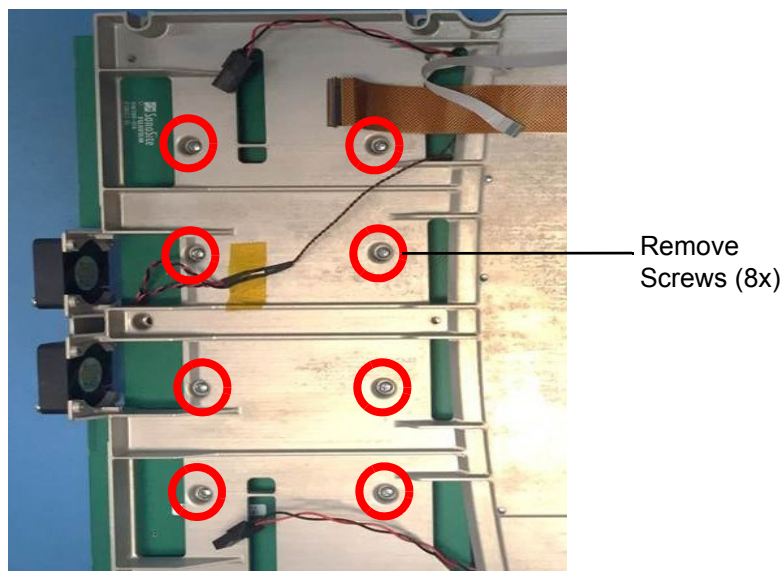

Figure 6.12 DTC Nest Frame removal
- 1 Orient Mid-Frame Assembly per Figure 6.12 and remove eight screws securing the nest frame assemblies
- 2 Install DTC onto Main PCBA as shown in Figure 6.12.
- 5 Turn Mid-Frame Assembly over and orient per Figure 6.12.
- 7 Install four screws as shown in Figure 6.12 and torque to 5.5 in-lbs.